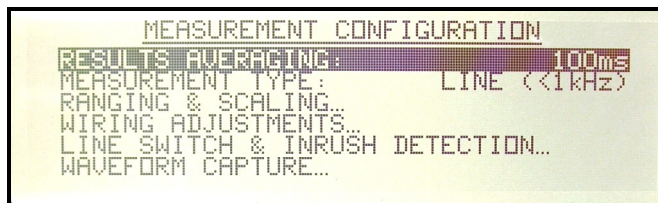

Figure 27. Measurement Configuration Screen
5. Press the **ENTER** key to enter into the **SETUP Ch1 MEASUREMENTS**, as shown in Figure 27.